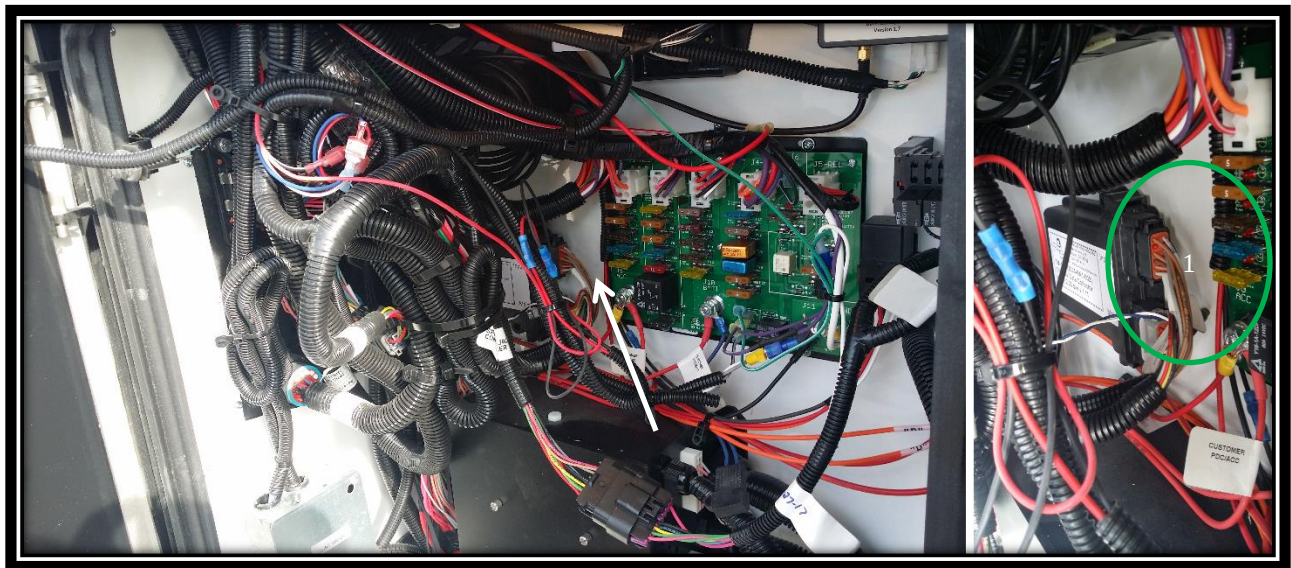

FIG. 2-1
1. Locate TM120, which is located on wall of front electrical compartment. Refer to FIG. 2-1.